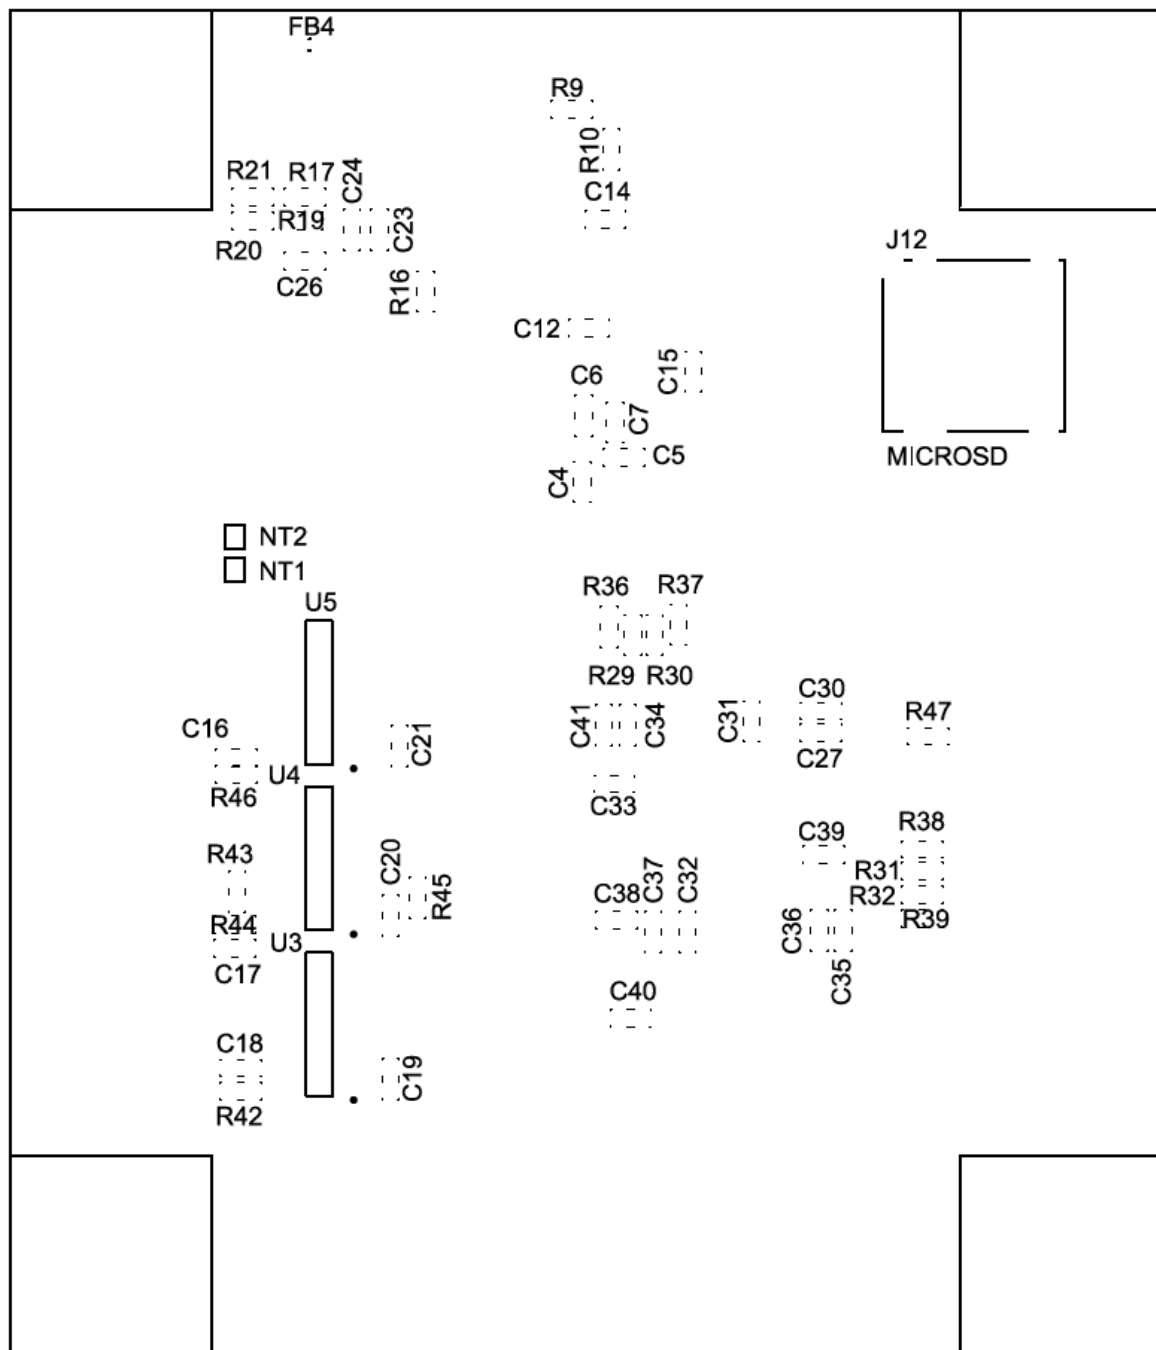

Figure 3 PE0003 Interface Card Bottom Layout
- On the bottom side of the board, cut the net ties placed within the footprints for U3, U4 and U5, see Figure 3, to isolate the C-BUS1 port